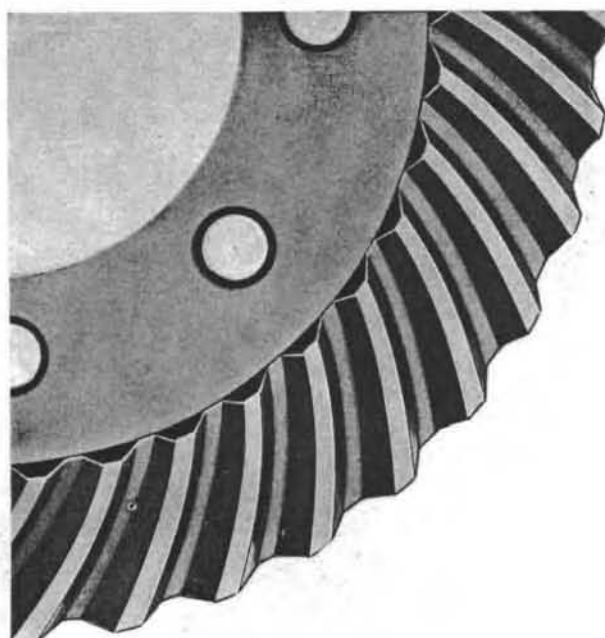

Fig. 93
- 1 - Excessive contact at bottom of tooth flank (see Fig. 93). This means that pinion is too